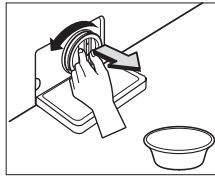

Fig. 13
- Turn knob to the left. (Fig.13)